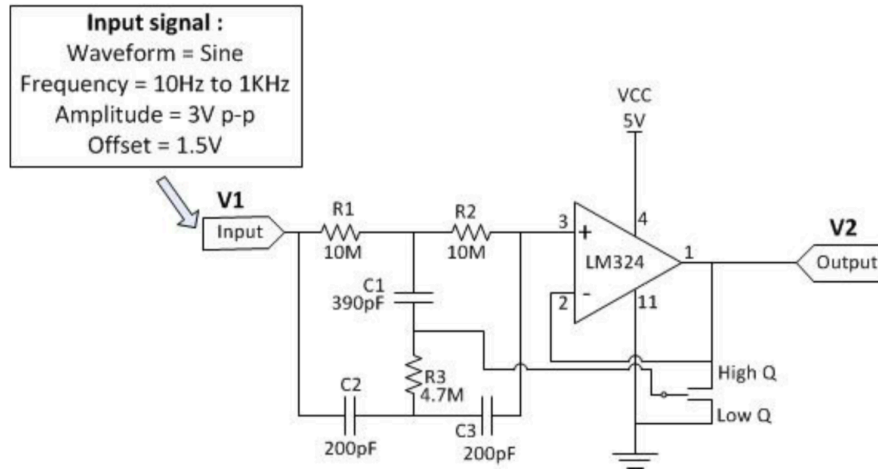

Figure 5: Band stop filter.
- 1) Use pinout diagram for LM324 op amp IC shown in Figure 1 to construct the band stop circuit as shown in Figure 5.
- 4) Connect channel 1 input (X) of the oscilloscope to the output of band stop filter and connect channel 2 input (Y) of the oscilloscope to the input of band stop filter.